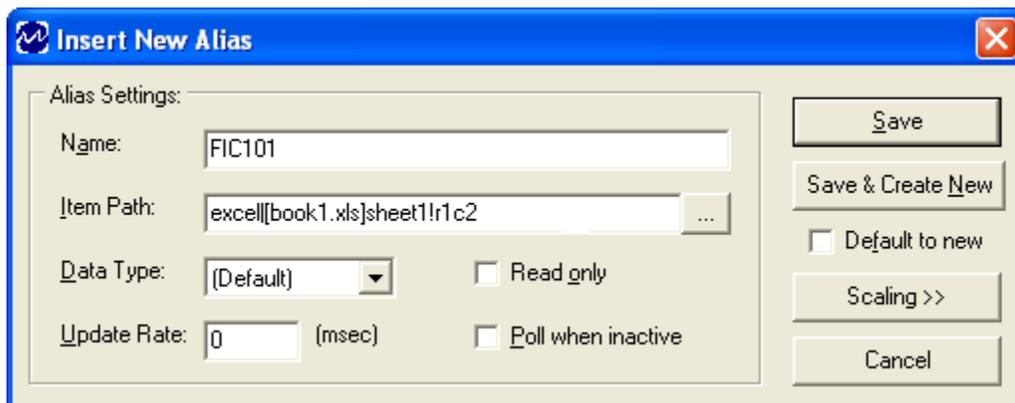

Figure 6 - Insert New Alias - Settings
10. Leave the rest of the fields as is (i.e., the default settings) as shown in Figure 6.